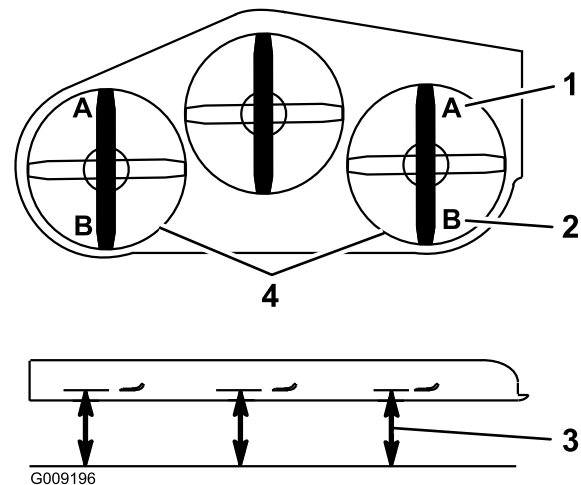

Figure 98
9. On both sides of the deck, measure from the level surface to the front tip of the blade (Position A) as shown in Figure 98.
16. On both sides of the deck, measure from the level surface to the back tip of the blade (position B) as shown in Figure 98.